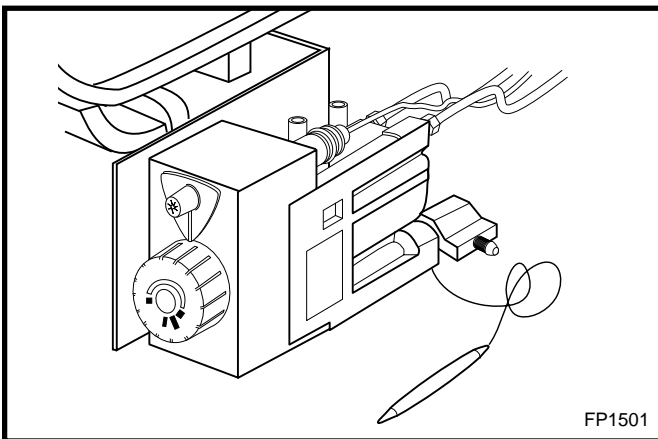

Fig. 8 Thermostat sensing bulb.
1. Locate the gas valve assembly and thermostat sensing bulb. (Fig. 8)